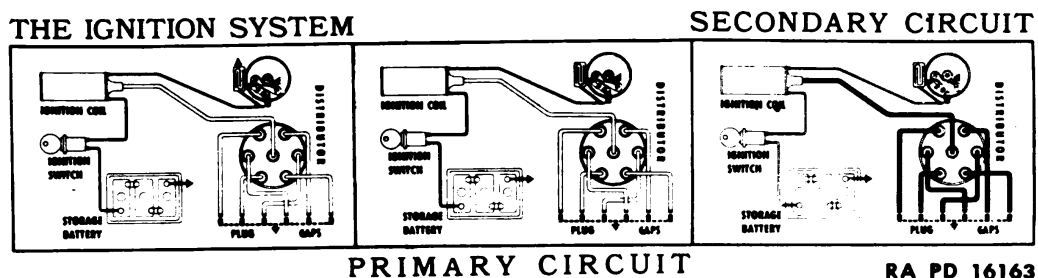

Figure 110—Typical Ignition System Circuits
f. **Low and High Tension Wire.** Low tension wires are those in the primary circuit, while high tension wires are those in secondary circuit. (See Fig. 110.)
a. When diagnosing any ignition system trouble, the mechanic should visualize ignition wiring diagram and keep in mind fundamental action of the two ignition circuits, primary and secondary. (See Fig. 110.) The checker must also bear in mind symptoms usually attributed to defects in ignition circuits are in some instances occasioned by defects in other engine operating systems.